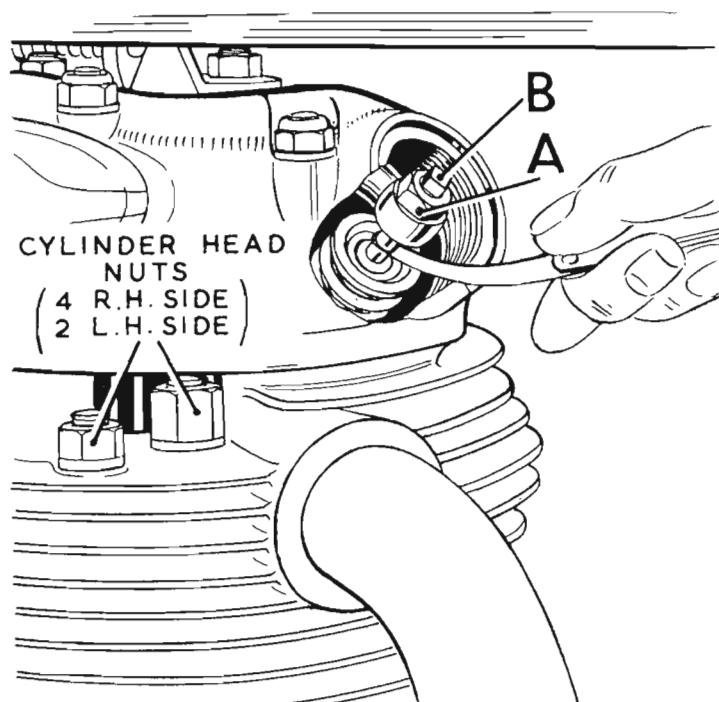

FIG. B.9 Checking valve clearances.
If the clearance requires adjusting slacken the locknut (A) and adjust the pin (B) until the correct gauge will just slide between the valve stem and pin (see Fig. B.9).